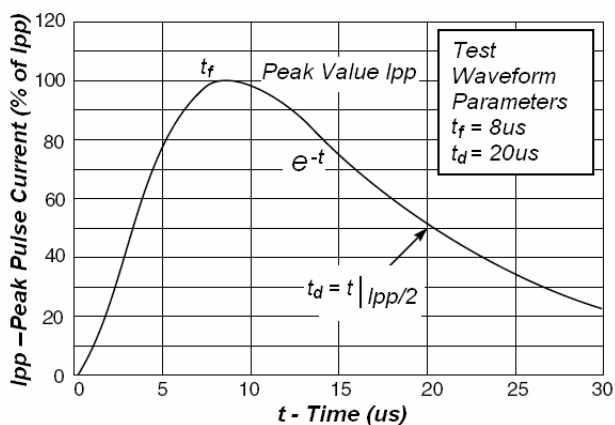

Fig1. Pulse Waveform
3. Surge current waveform per Figure 1.